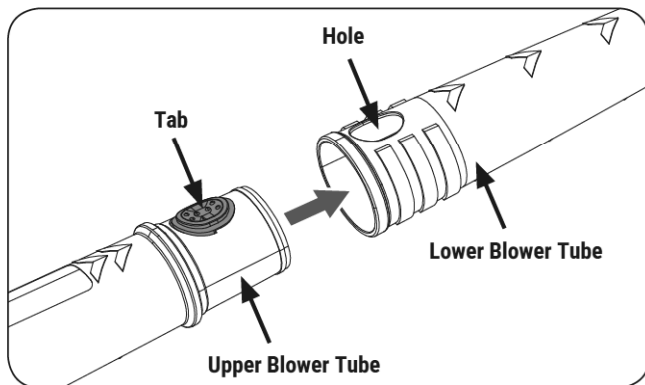

Figure 9
2. Align the tab on the upper blower tube with the hole on the lower blower tube, then push the upper blower tube into the lower blower tube until the tab snaps firmly into the hole. (See **Figure 9**)